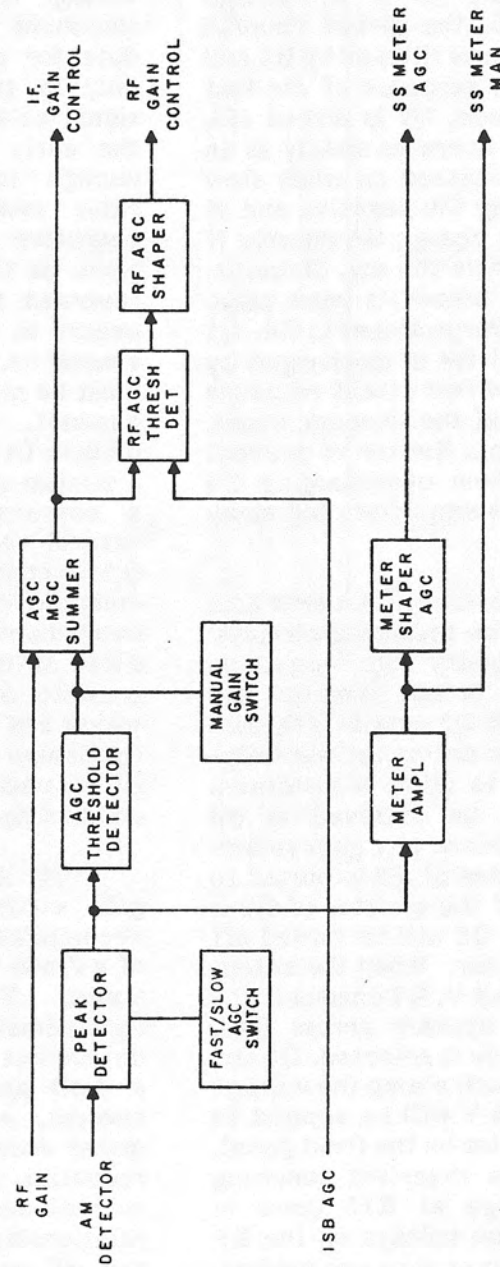

Figure 3-13. Agc Circuit Modes
c. Age Circuitry. In the following discussions, it may be helpful to consider the age circuit modes figure 3-13 and the age amplifier schematic diagram, figure FO-9. In the age module, pins 51 and 52, the direct coupled output of the am. detector is filtered by R5 and C3 to limit the speed of response of the fast age. In the fast age mode, Q7 is biased off, disconnecting C4, so Q1 operates simply as an emitter follower. Q7 is biased on when slow age is selected, grounding the negative end of C4. In this case Q1 can charge C4 quickly if there is a rise in input from the am. detector, but when the input falls below its peak value Q1 is turned off by the charge stored in C4. Q1 continues to be off until C4 is discharged by R3. This action gives the fast attack response and slow decay response of the slow age mode. Zener diode CR2 acts as a limiter to prevent short bursts of signal from overcharging C4 (which might cut off the amplifiers for many seconds).
(1) Operational amplifier U1A acts as a buffer between C4 and the following circuits. A general-purpose diversity age output is provided at pin 16, but is not used in this configuration. Transistor Q2 acts as a threshold detector, blocking age action for weak signals. This is desirable to allow a maximum signal-to-noise ratio to be obtained in all stages of the receiver before any gain reduction is permitted. The base of Q2 is biased to approximately +0.2 V. If the emitter of Q2 is lower than about +0.8 V, Q2 will be turned off and no age action can occur. When the output of U1A is greater than +0.8 V, Q2 conducts and a gain control voltage appears across R13. When the manual gain mode is selected, Q3 and Q6 will be turned on and will clamp the voltage on R13 to ground, and +5 V will be applied to the RF GAIN potentiometer on the front panel. Op amp U2B acts as an inverting summing amplifier for the voltage at R13 (zero in manual gain mode) and the voltage on the RF GAIN control (zero in fast or slow age modes).
(2) The output of summing amplifier U2B is buffered by op amp U1D and applied